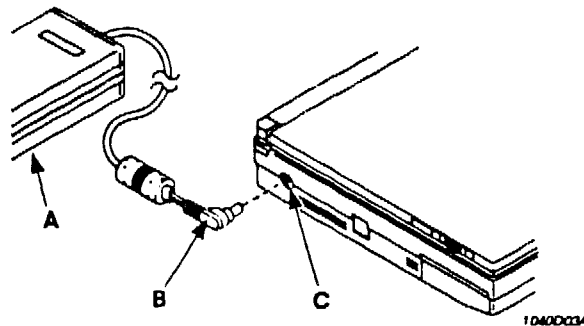

Figure 2-2. Connecting the Adapter DC Plug to the DC IN Jack
2. Connect the DC plug of the AC/DC adapter to the DC IN jack on the left side of the computer as shown in Figure 2-2.